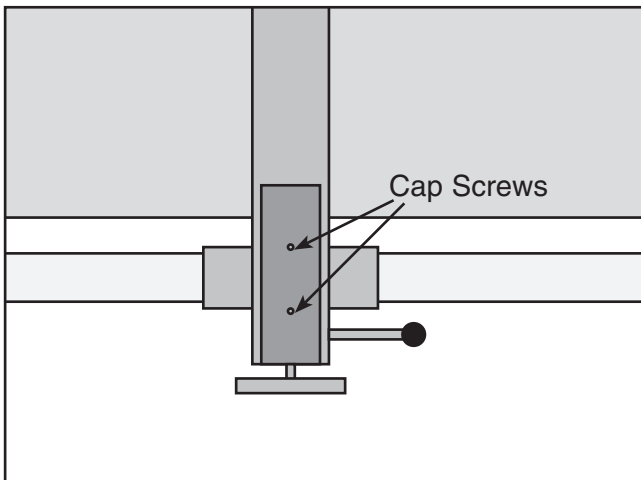

Figure 36. Cap screws to loosen fence.
3. Loosen the cap screws (**Figure 36**) on the top of the fence to allow adjustment of the fence. Retighten when complete.